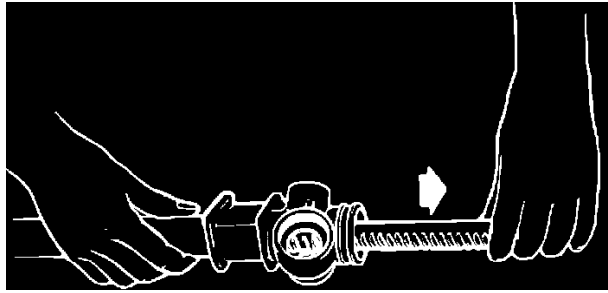

**Fig. 3 Checking pinion torque**
6. After tightening damper screw, back it off 90 degrees and check rotational torque of pinion. Pinion torque should be 58-94 ft. lbs., Fig. 3.